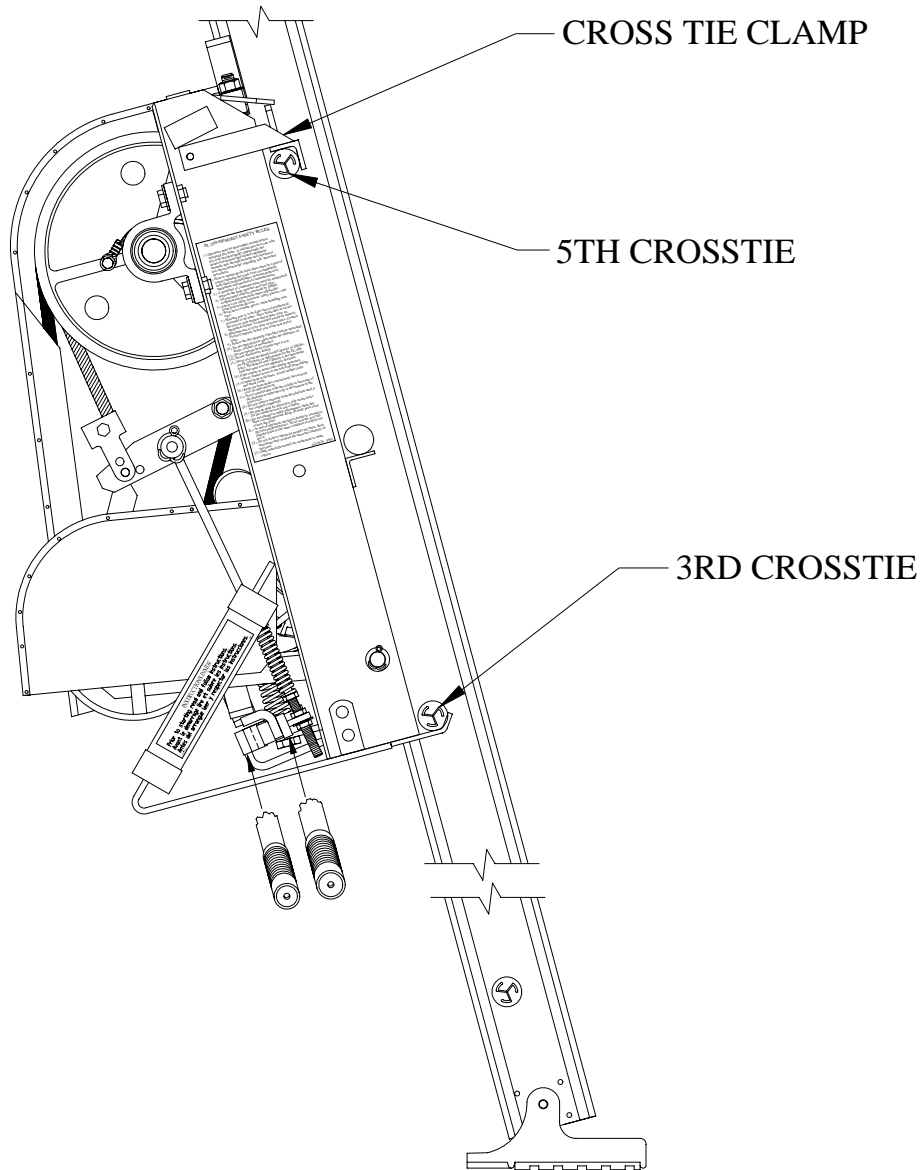

Figure 3-1.
3. Referring to Figure 3-1. and the instructions included with the additional cross tie stiffener install a cross tie stiffener in the 5th cross tie from the swivel shoe end of the base track section.
4. Mount the power drive in an essentially vertical position. **If the power drive is not vertical, the brake and clutch levers will not work and the engine may not operate.** Referring to Figure 3-1, position the power drive on the 3rd and 5th **reinforced track cross ties** from the bottom with the clamp on the 5th cross tie. Power drive should be on the underside of the track. Center the drive between the track rails and lock in place by rotating the lock to the left. Insert a #38 lock pin in the hole provided to prevent lock from loosening. Fasten the operating handles on the power drive. When facing the power drive from the rear or building side of the track, the power drive operator handles will be on your right. Details on power drive startup are given in Chapter 4.